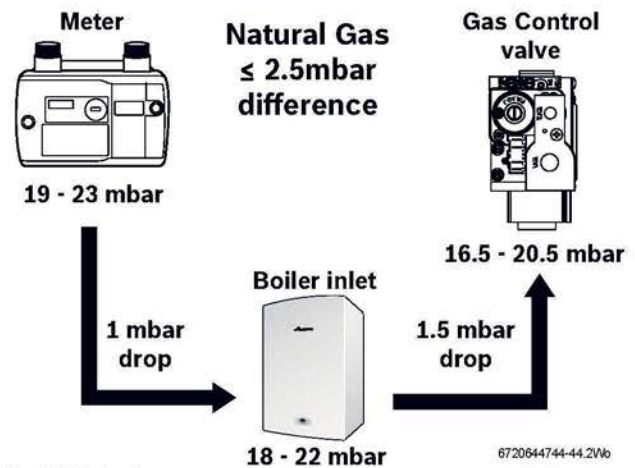
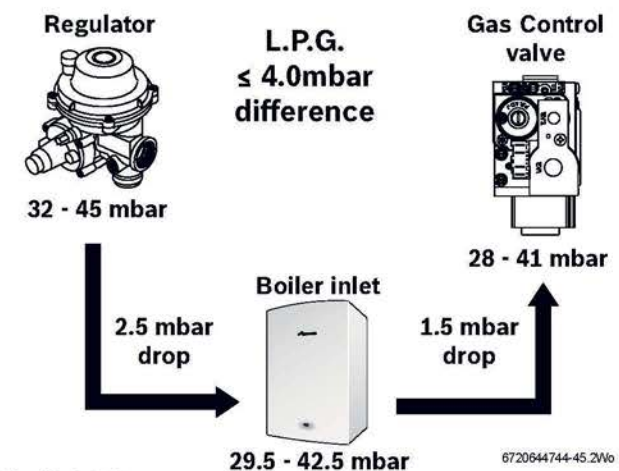

Fig. 47 Natural gas pressures
Fig. 48 L.P.G. pressures
- ▶ Slacken the screw in the inlet pressure test point (1) and connect a manometer.
- ▶ Check the gas supply working pressure at the gas valve conforms to values shown in Fig. 47 or Fig. 48 .